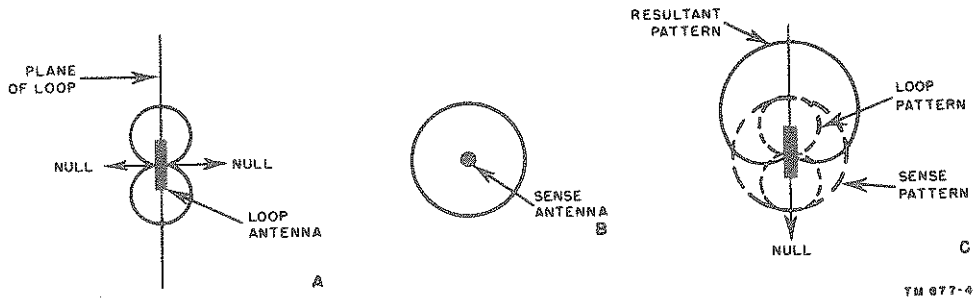

Figure 4. Antenna radiation patterns.
pickup (null) is obtained when the plane of the loop is perpendicular to the path of the signal. The antenna pattern is in the form of a figure 8 as shown in A, figure 4.
c. The pattern of the sense antenna is circular (B, fig. 4). When the voltage from the sense antenna is combined in the proper phase relationship with the voltage from the loop antenna, a cardioid pattern results (C, fig. 4). This pattern has but one null and one maximum which are related in position to the nulls and maximums of the loop pattern as shown. The cardioid null lies to the right of one null and to the left of the other null of the figure 8 pattern. By manipulating the loop and sense antennas while operating the equipment and observing the position of the cardioid null with respect to the loop nulls, it is possible to resolve the 180° bearing ambiguity of the loop and determine whether the signal is arriving from the front or the rear of the set.